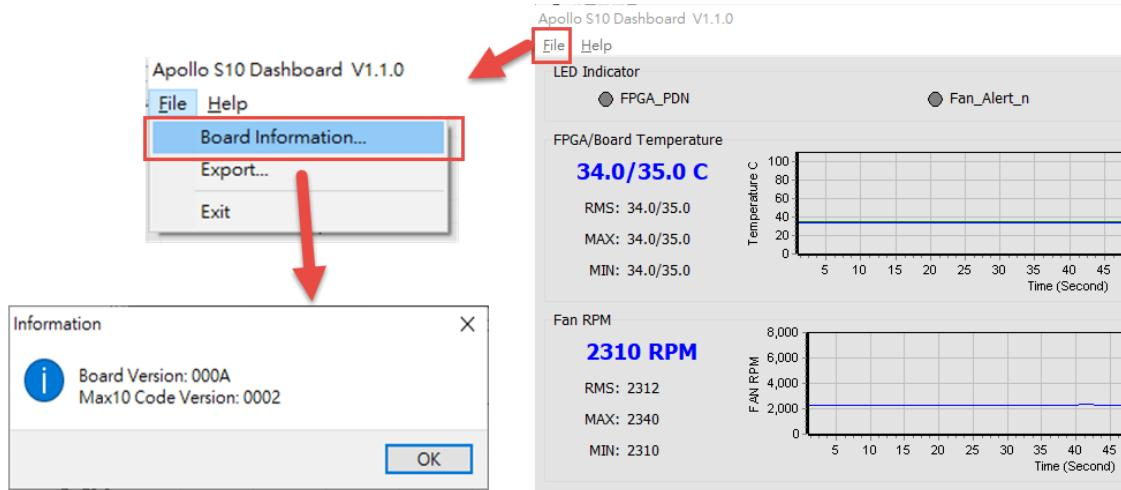

**Figure 4-12 Sampling Speed section**
- Sampling Speed:** It can change interval time that the Dashboard GUI sample the board status. Users can adjust it to 1s/10s/1min/Full Speed (0.1s) to sample the board status, as shown in **Figure 4-12** and **Figure 4-13**.